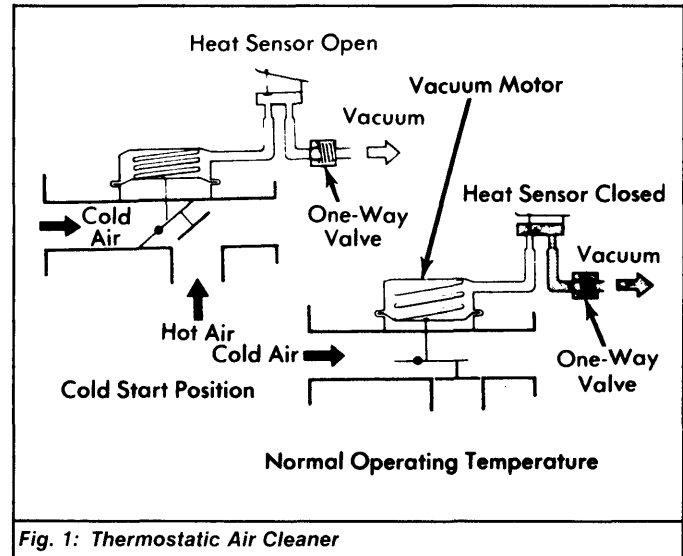

Fig. 1: Thermostatic Air Cleaner
3) Apply a minimum of 9 in. Hg of vacuum to one-way check valve. See Fig. 1. Flap should close and hold closed position for 20 seconds after vacuum is released.